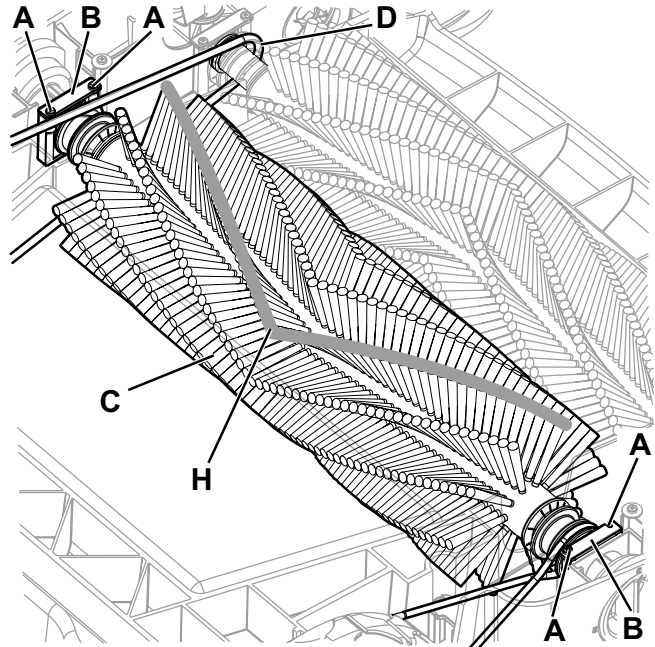

Figure 1
2. Remove the screws (A, Fig. 1), then remove the supports (B) with the main broom (C). Pay attention to the driving belt (D) of the front main broom.
- Install the main broom with the bristles as shown in (H, Fig. 1).
- Pay attention to the proper position of the long driving belt (D, Fig. 1).
- Turn the 2 knobs (7) on the position 1.